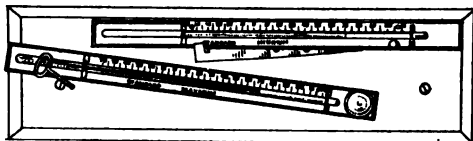

FIG. 146.—Minimum and maximum thermometers.
**166. Special thermometers.** In Weather Bureau stations the lowest temperature during the night and the highest temperature during the day are automatically recorded by special thermometers called minimum and maximum thermometers. These are usually mounted as shown in figure 146. The upper one is the minimum and the lower the maximum thermometer. In the **maximum** thermometer, the bore is constricted just above the bulb, so that the mercury passes